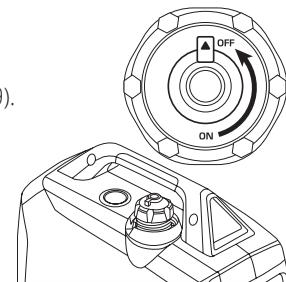

Fig. 8
6. After the generator stops, allow it to cool down and close the air vent on the fuel cap (set to "OFF", as shown in Fig. 8, when switching off gasoline operation).
7. After the generator stops, allow it to cool down and close the air vent on the fuel cap (set to "OFF", as shown in Fig. 8, for models KS 2000i S, KS 2000iG S, KS 3000i S, KS 3000iG S - when switching off gasoline operation).